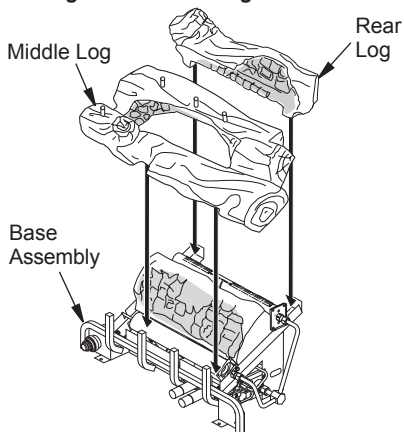

Figure 24 - Installing Rear and Middle Logs
2. Rest rear log in back corner sections of base assembly as shown in Figure 24. Make sure log is completely vertical and not leaning in toward burner where the flame will touch the log.
3. Position middle log as shown in Figure 24, making sure grooves in bottom of log fit over grate prongs. This log will rest on top of bottom log.